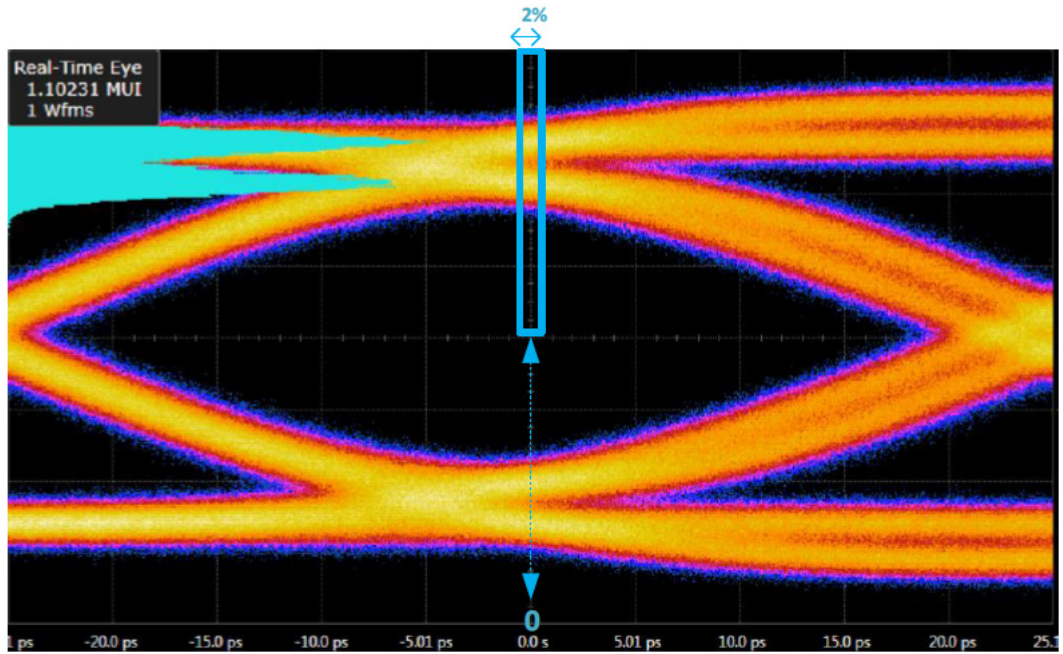
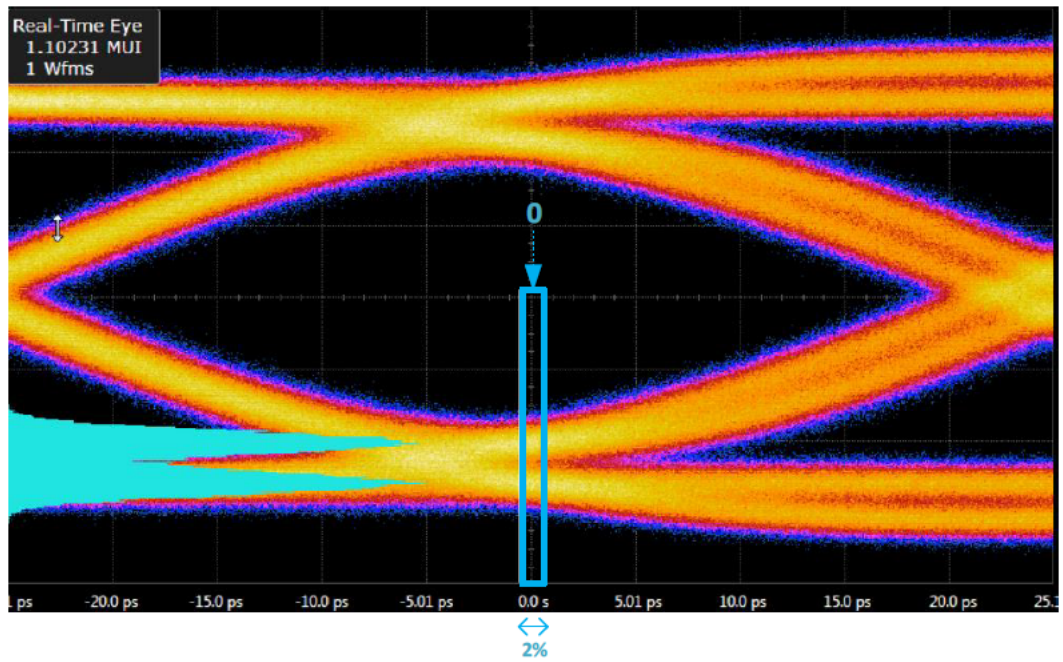

Figure 102 Thunderbolt RX TP3EQ Eye Height upper location measurement
Figure 103 Thunderbolt RX TP3EQ Eye Height lower location measurement
- f Apply a Histogram to the lower and upper sections of the eye, with  $\pm 1\%$  deviation in time axis in order to calculate the eye height. Eye height is the delta between the minimum value from the upper histogram result (see Figure 102) and the maximum value from the lower histogram result (see Figure 103).